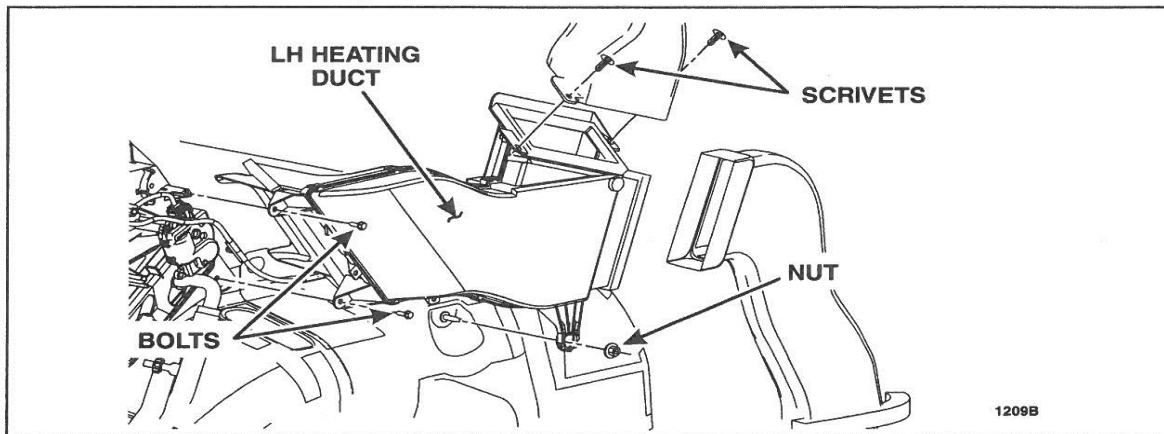

FIGURE 2
8. If equipped, remove LH heating duct. See Figure 2.